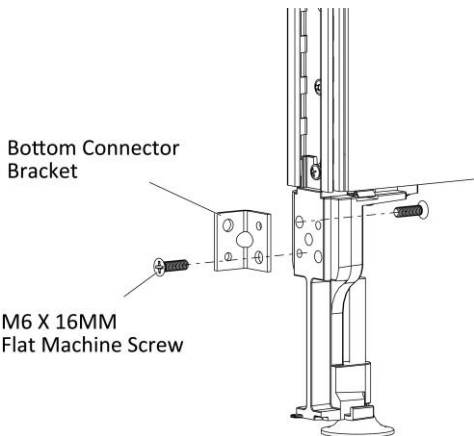

Figure 5
- Securely fasten the bottom corner bracket to the panel leg with two M6 X 16MM Flat Machine Screws, (Figure 5).